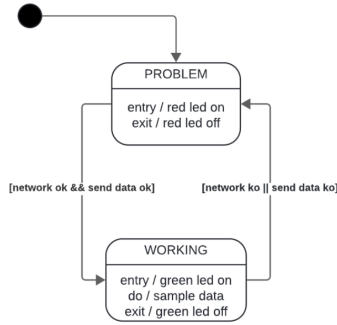

Figure 2: Temperature Task State diagram
1. **Temperature Task:** to measure the temperature, implemented as a FSM as shown in **Figure 2**